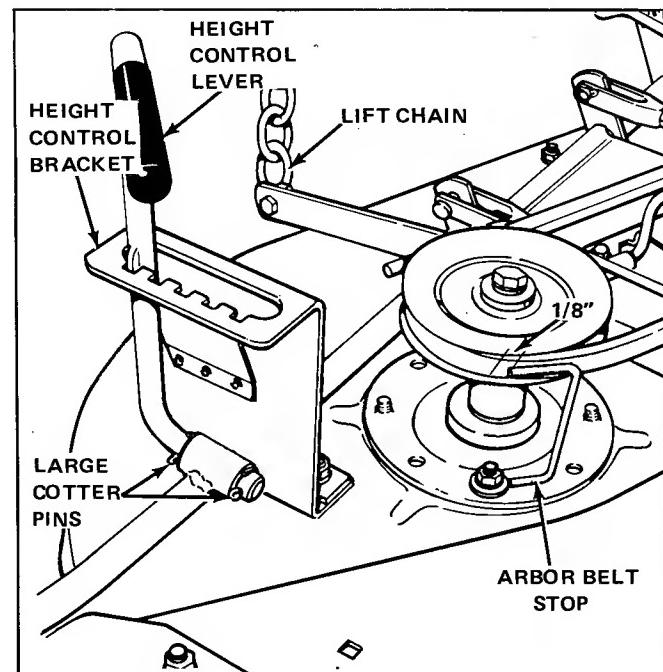

Figure 49. Attach Height Control Lever
2. Insert the height control lever through the height control bracket, as shown in figure 49.
3. Attach the height control lever to the right rocker arm, using two of the large cotter pins provided (see figure 49). Spread the legs of the cotter pins around the lever.
5. Install lift chain on mower as shown in figure 49. Using the capscrew and flange locknut provided, secure chain on locknut side of arm so that is **tight enough not to rattle yet loose enough to pivot**.
8. Insert the height control lever through the height control lever bracket, and attach the control lever to the right rocker arm using two of the large cotter pins provided (see figures 49 and 52). Spread the legs of the cotter pins around the lever.